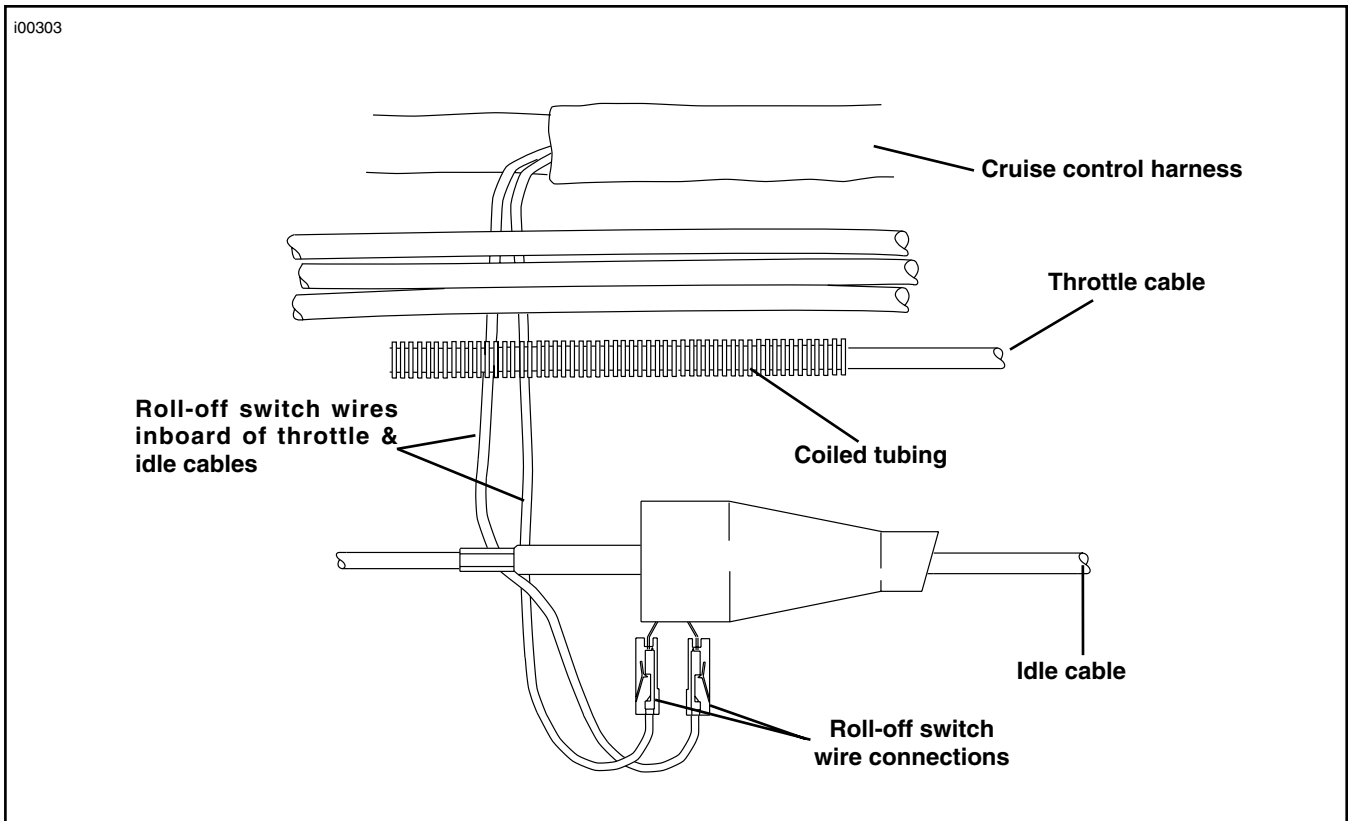

Figure 5. Throttle / Idle Cable and Roll-off Switch Configuration
12. See Figure 5. Install the coiled tubing on the throttle cable from front to rear. Open the split in the tubing, place the tubing on the cable and feed tubing back through the frame clamp until the tubing end contacts the induction module cable guide.